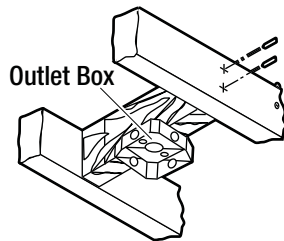

Figure 1
- Secure the outlet box directly to the building structure. Use appropriate fasteners and building materials. The outlet box and its support must be able to fully support the moving weight of the fan (at least 35 lbs.). Do not use plastic outlet boxes. Figures 1 and 2 are examples of different ways to mount the outlet box.